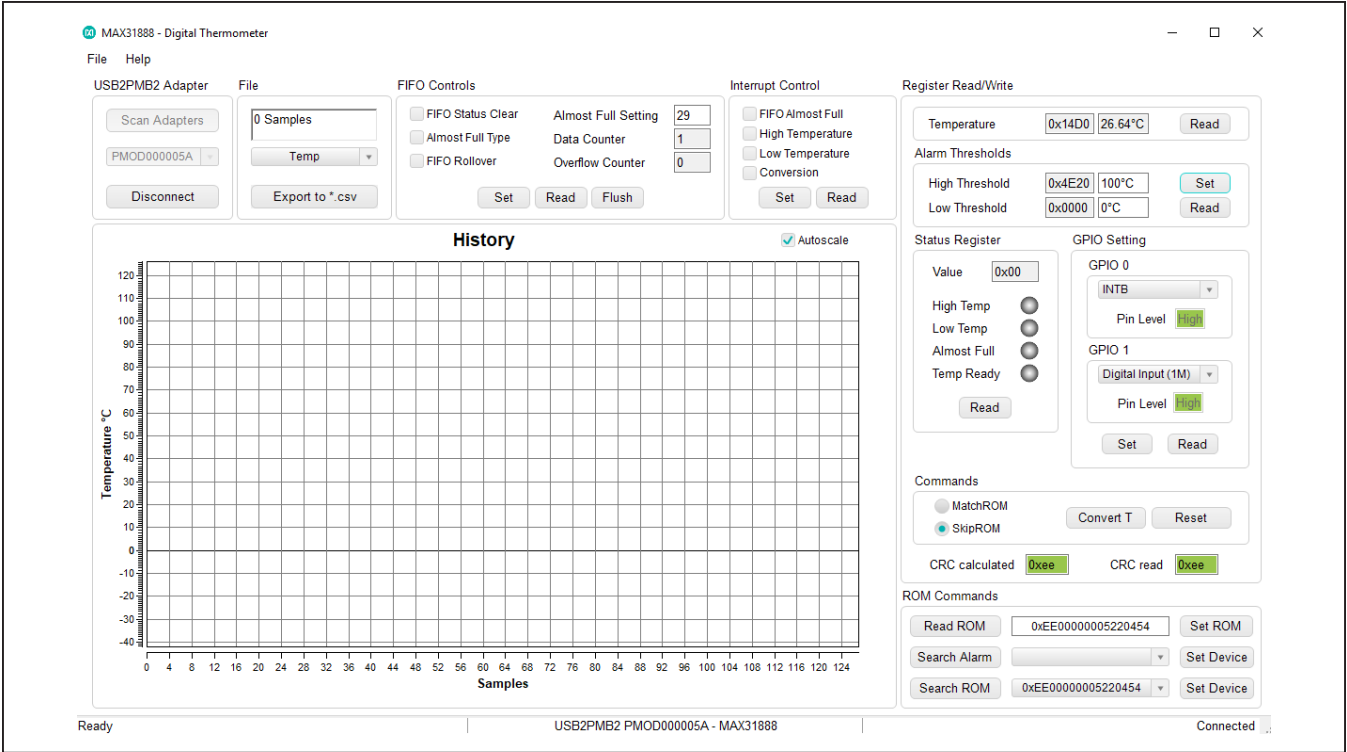

Figure 1. MAX31888 Main Window
- 6) Open the EV kit GUI, MAX31888EvaluationKitTool.exe (Figure 1).